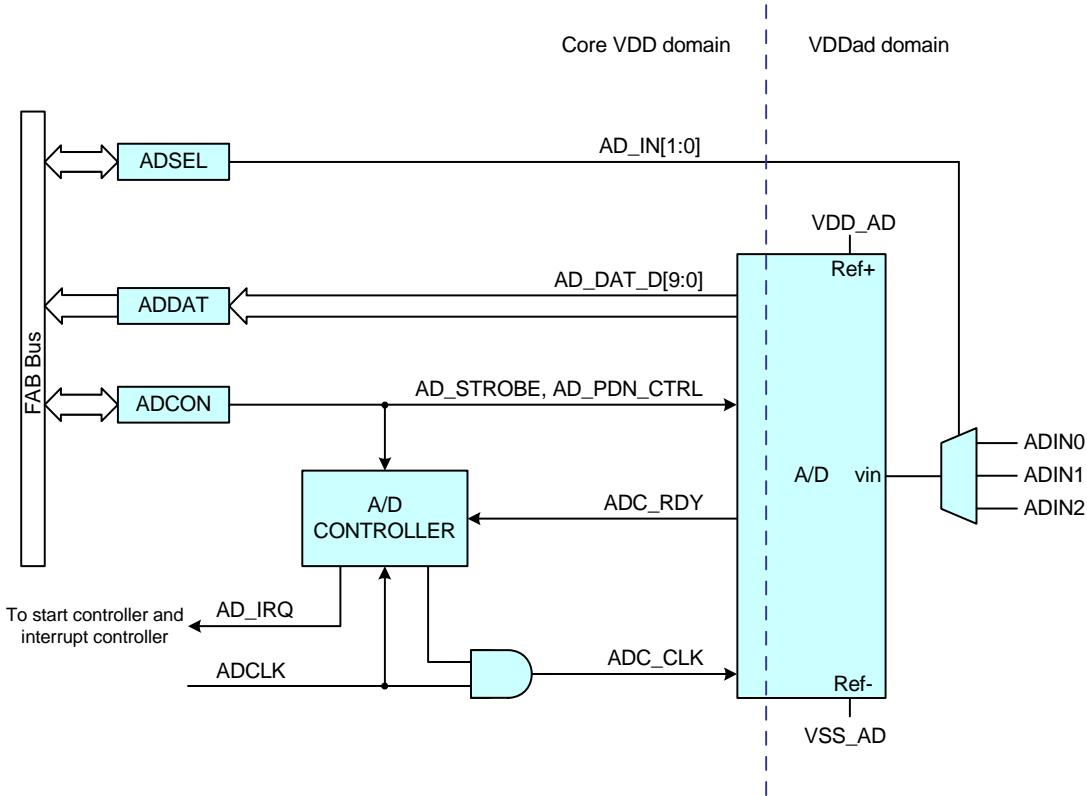

Fig 41. Simplified Block diagram of the Touch screen controller used as an ADC
Figure 41 shows the block diagram of the A/D Converter.
- Wait for an A/D interrupt signal from AD_IRQ (see Figure 41), or poll the raw interrupt bit 7 in the SIC1_RSR register to determine when the conversion is complete.